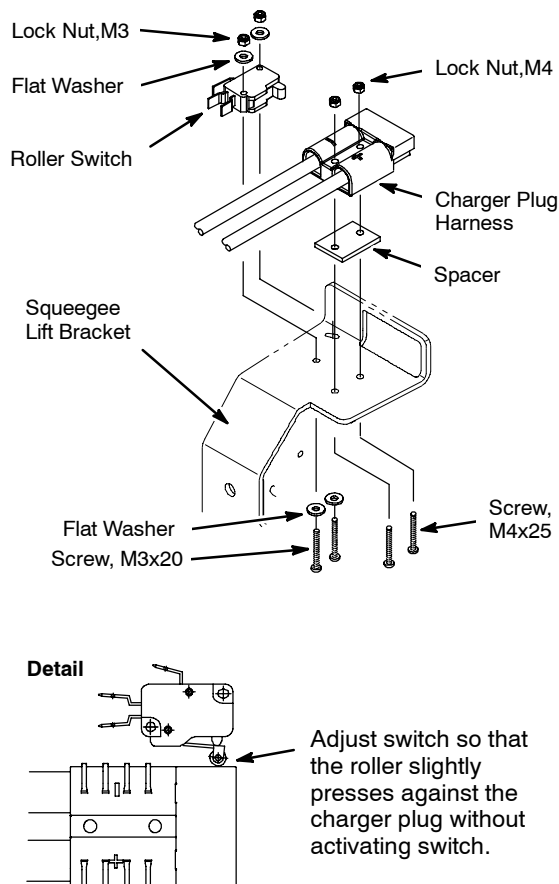

Fig. 12
12. Attach the roller switch and the charger plug harness to the squeegee lift bracket as shown (Fig. 12). Make sure the roller switch is properly adjusted before replacing the squeegee lift bracket (see Detail).